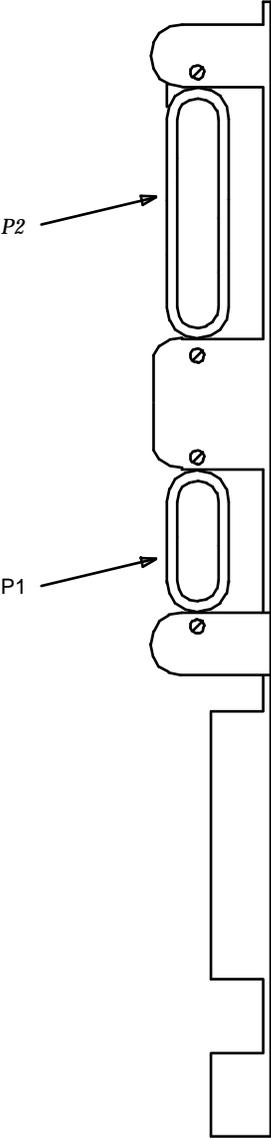

FIGURE 4-23. P1 and P2 Cable Locations
5. Connect the "P2" and "P1" (large and small) connectors to the "A" carrier. To get enough slack in the cables, cut the tie wrap holding the intercabinet cable to the upright in the area of the carrier being installed. Snap the connector lock into place to ensure the connection is properly made (see Figure 4-23).